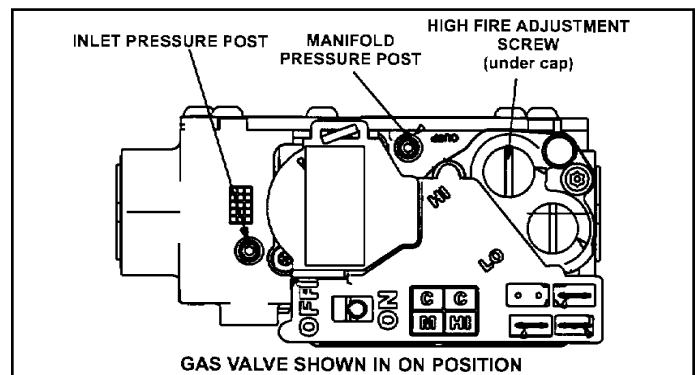

Figure 51.
6. Move gas valve switch to OFF. See Figure 51.
8. Move gas valve switch to ON. See Figure 51.
An inlet post located on the gas valve provides access to the supply pressure. See Figure 51. Back out the 3/32 hex screw one turn, connect a piece of 5/16 tubing and connect to a manometer to measure supply pressure. See Table 24 for supply line pressure.
A manifold pressure post located on the gas valve provides access to the manifold pressure. See Figure 51. Back out the 3/32 hex screw one turn, connect a piece of 5/16 tubing and connect to a manometer to measure manifold pressure.
5. If necessary, make adjustments. Figure 51 shows location of high fire and low fire adjustment screws.